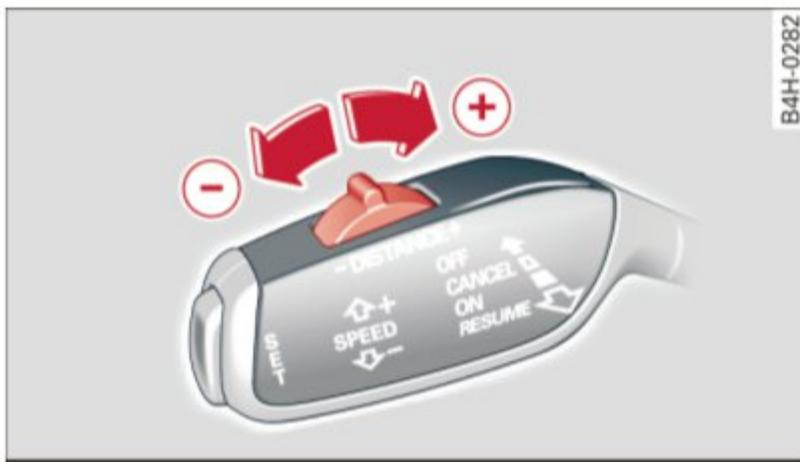

Fig. 118 Selector lever: setting the distance
- ▶ Tap the switch to display the current set distance ⇒ *fig. 118*.